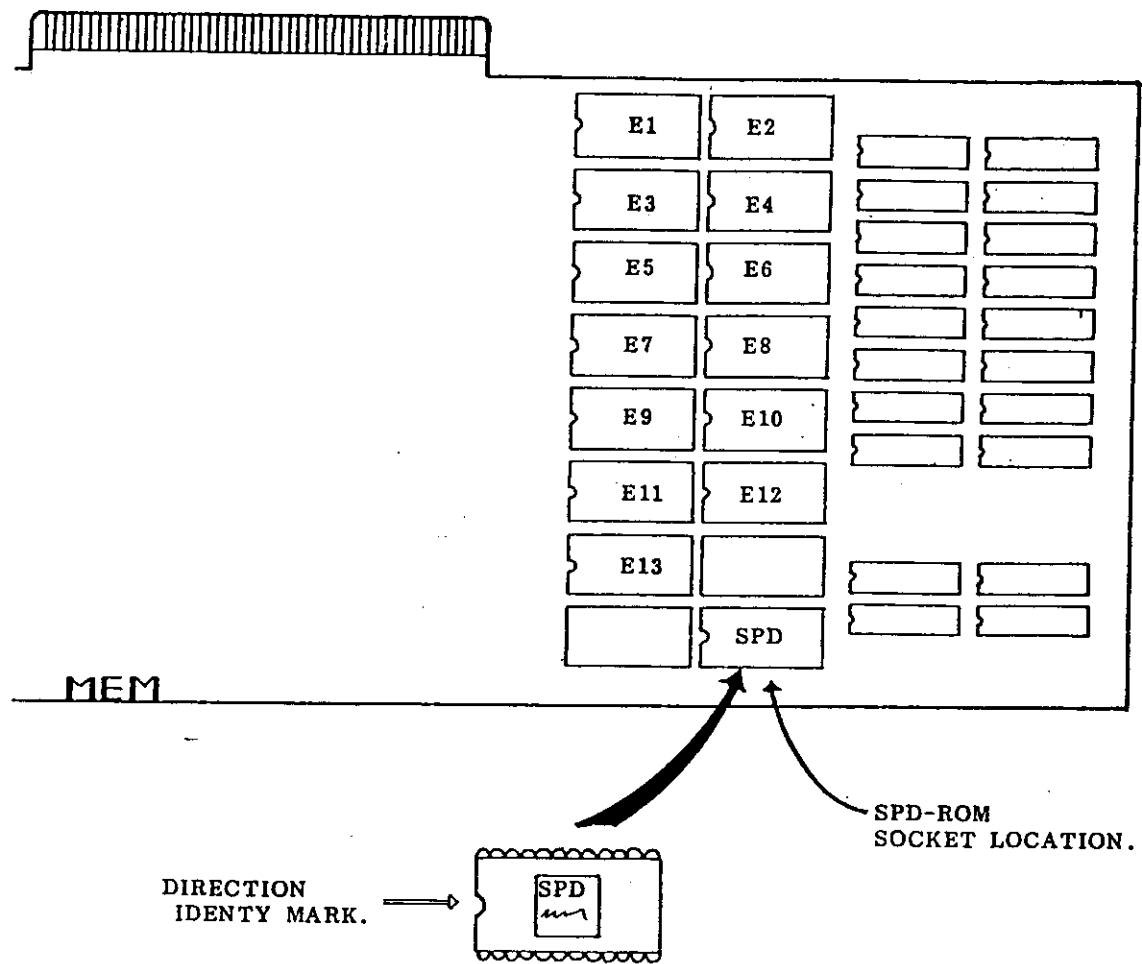

FIGURE 20-3 SPD Installation on MEM Card
- (3) Referring to FIGURE 20-3, locate the EPROM socket on the MEM circuit card that accepts the SPD chip. Note the alignment of the I.C. in the socket.